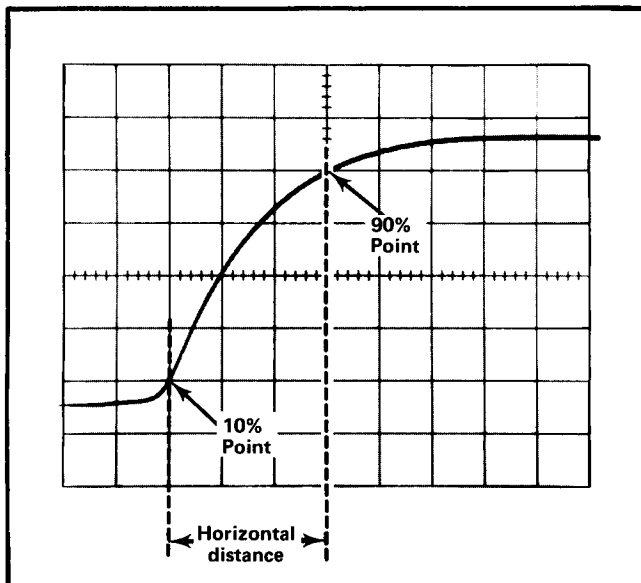

Fig. 2-11. Measuring risetime.
8. Adjust the horizontal POSITION control to move the 10% point of the waveform to the center measurement area. For example, with a five-division display as shown in Fig. 2-11, the 10% point is 0.5 division up from the start of the rising portion.
Example. Assume that the horizontal distance between the 10% and 90% points is three divisions (see Fig. 2-11) and the TIME/DIV switch is set to 1 μ s with the MAG switch set to X10. Applying the time duration formula to risetime: